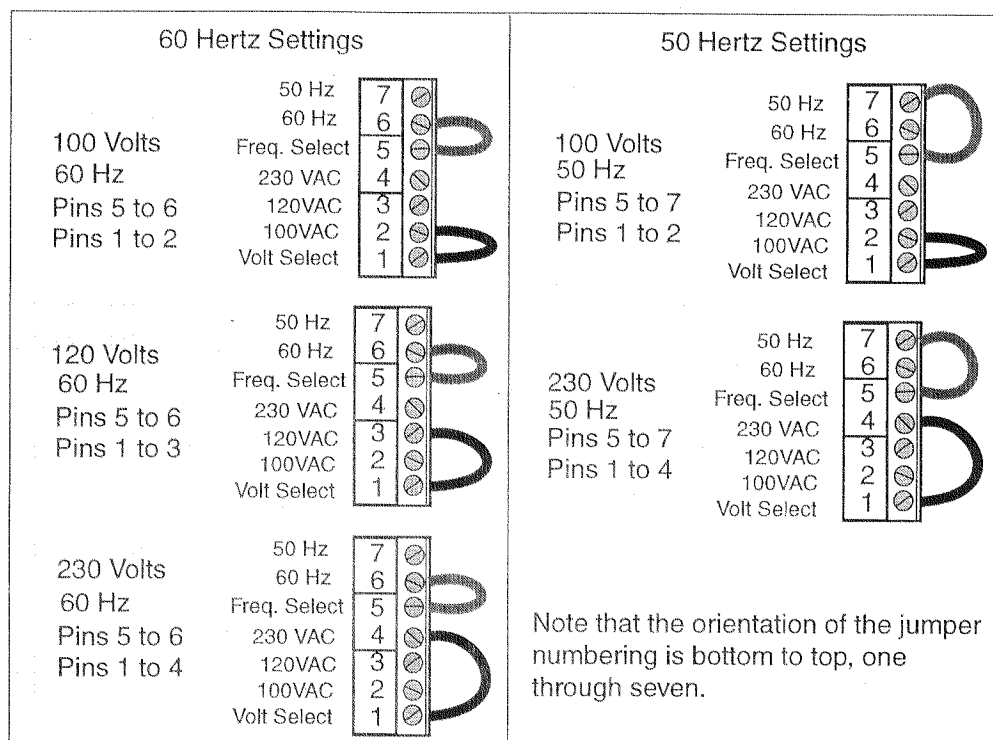

Figure 2.7. Configuring Voltage Selection Jumpers
6. Using a small screwdriver, reconfigure the jumpers as required. Refer to Figure 2.7 for jumper configurations.